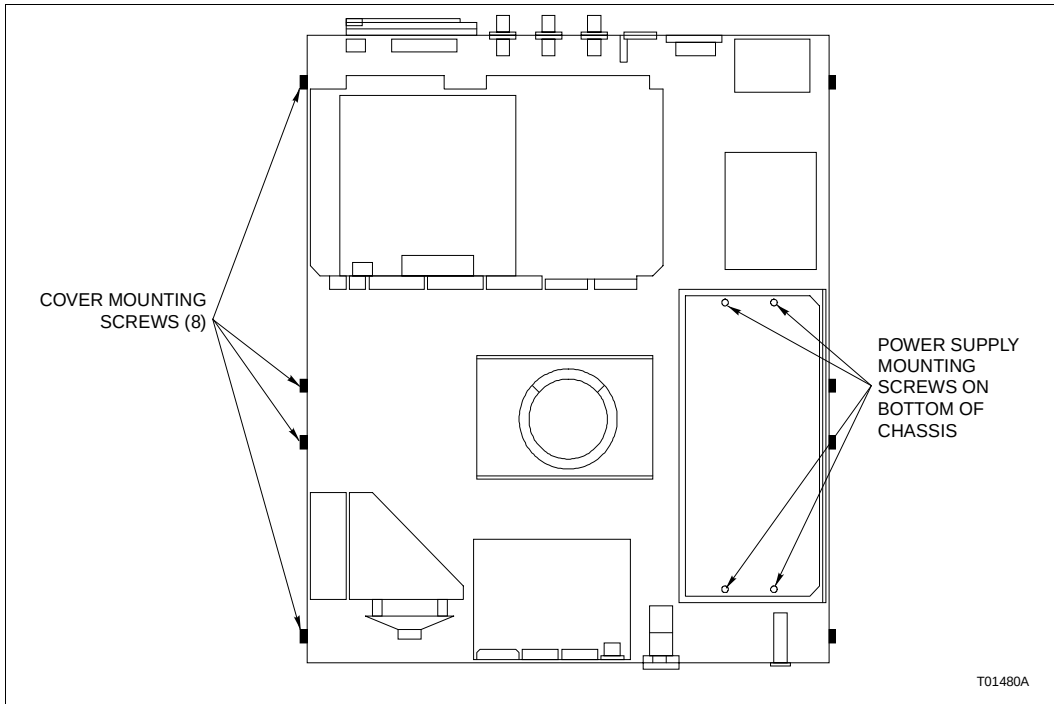

Figure PR25-1. Table Top Model Power Supply Installation
- ☐ 3. Use the bladed screwdriver to install the four screws that hold the power supply to the chassis from the outside bottom of the chassis (Fig. PR25-1).